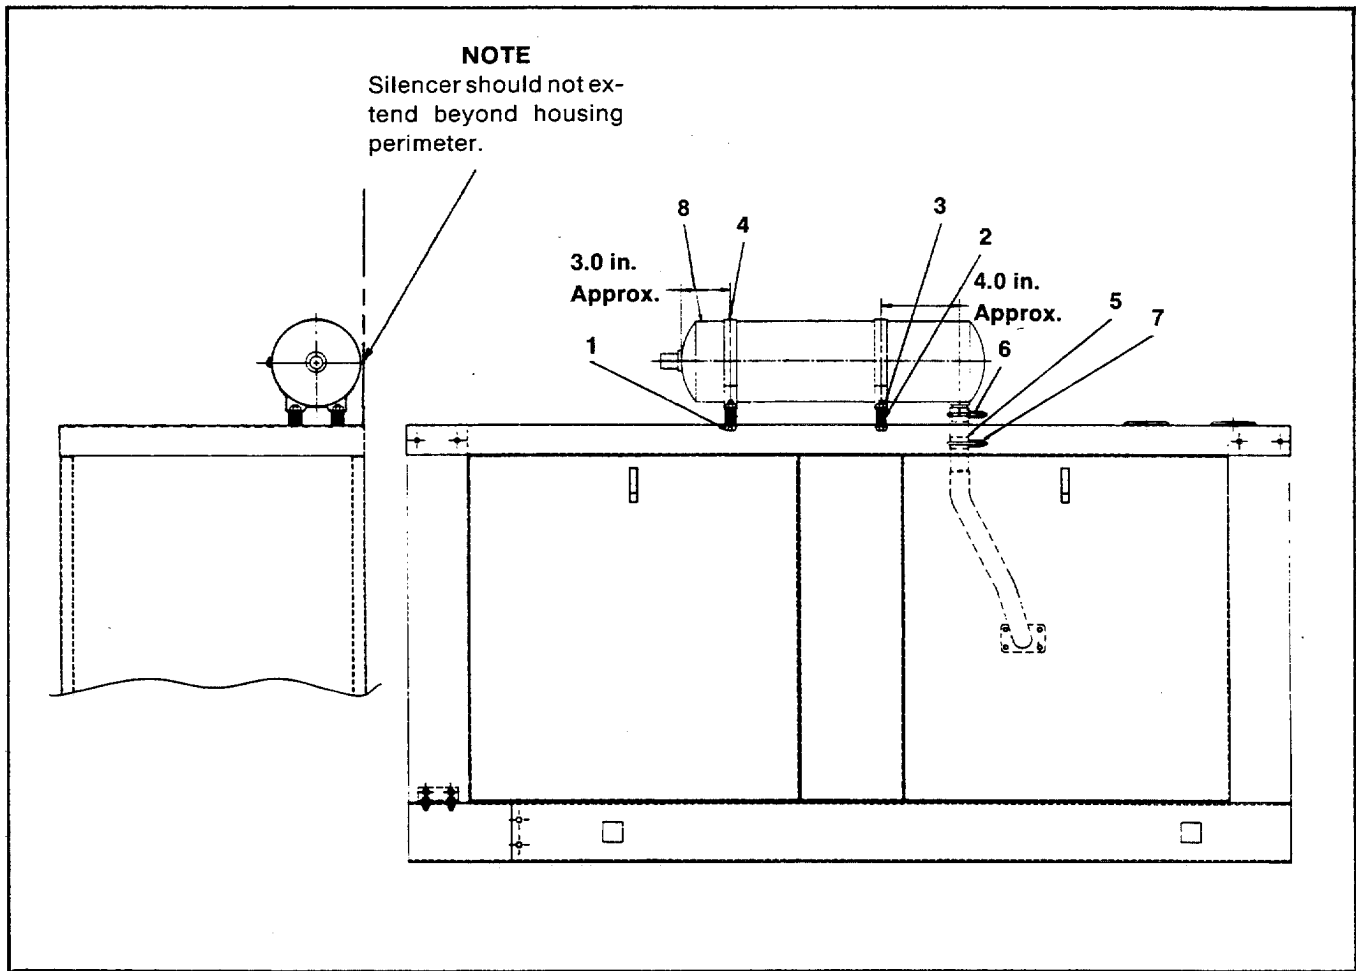

Figure 1. Silencer Mounting.
Refer to the mounting instructions and follow all safety precautions when assembling. See Figure 1 and parts listing for identification and location of parts.
- Slide mounting bands over silencer and align silencer inlet over exhaust pipe, do not secure. Position mounting bands according to dimensions given in Figure 1.